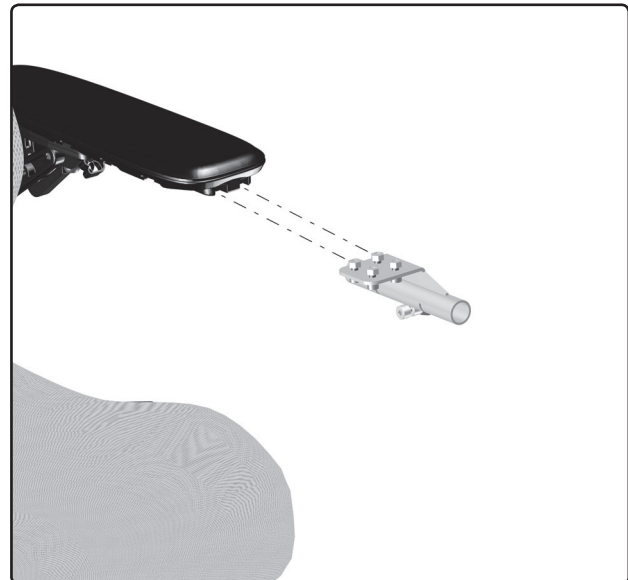

Fig. 1. Mounting the bracket.
1. Mount the table bracket to the arm rest by sliding the groove nuts into the grooves on the underside of the arm rest. (*Fig. 1*)